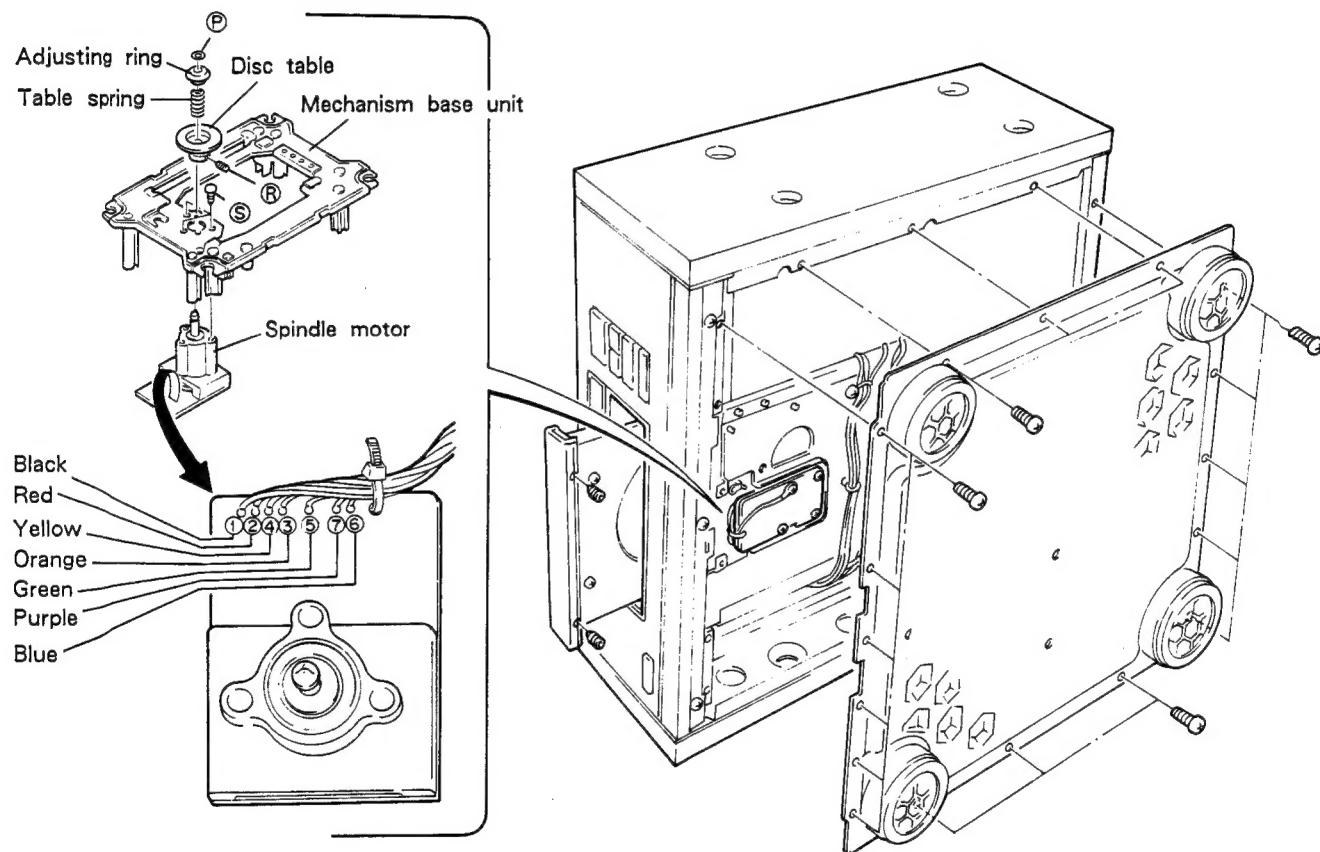

Fig. 2-5.
2. Remove the split washer ⑤ fixing the adjusting ring. (Refer to Fig. 2-5.)
4. Loose the screws ④ of the disc table from the opening part of the front panel with the hexagonal driver and remove the disc table.
5. Remove the fixing screws ③ of the spindle motor.
6. Remove the lead wires (7) wired as shown in Fig. 2-5, with a soldering iron.